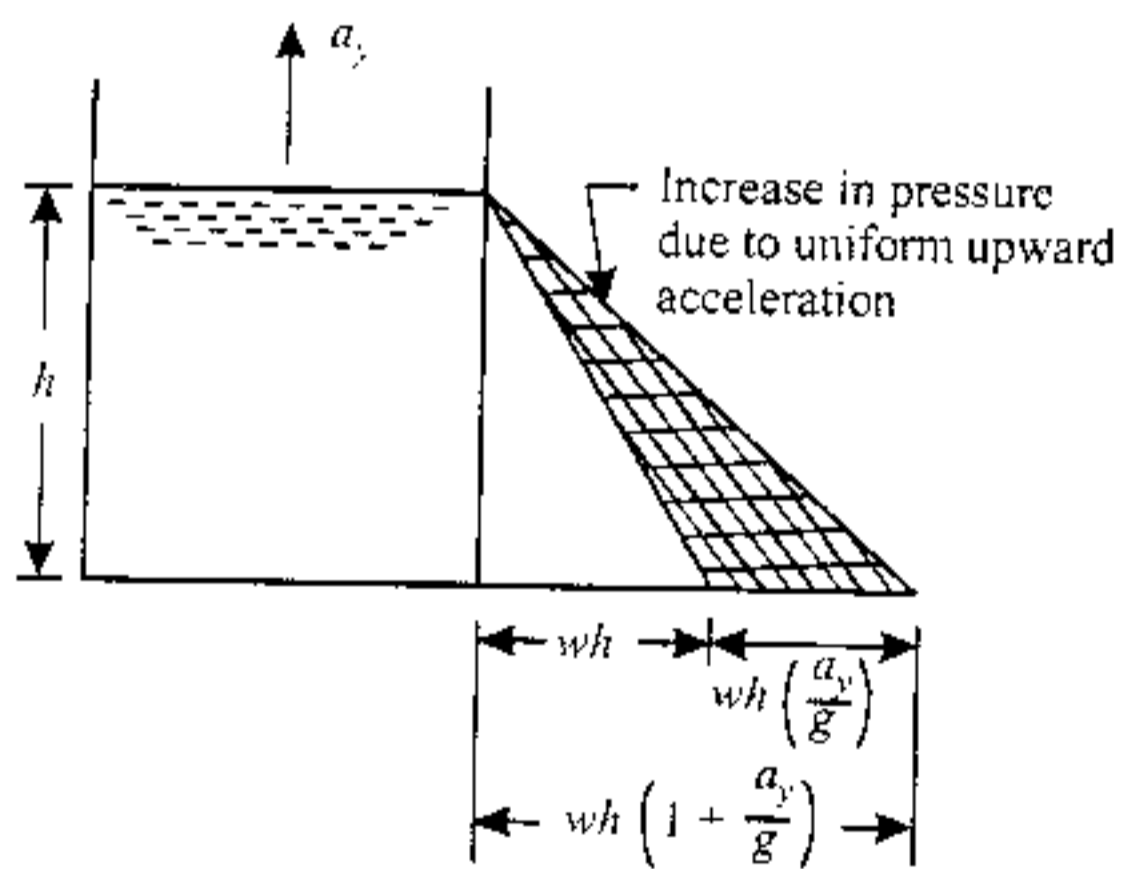

Fig. 6.93. (a)
- The pressure intensity at any point is more than the static pressure wh by an amount $wh \left(\frac{a_y}{g} \right)$ as shown in Fig. 6.93 (a).